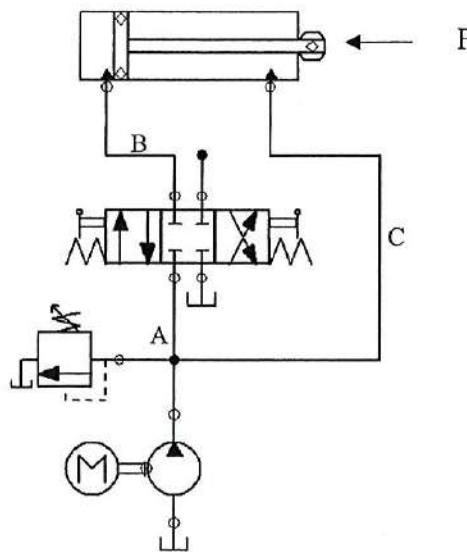

Figure 1 / Rajah 1
- 1 (a) What is the effect of regeneration on cylinder speed and force out-put? Explain why regeneration has this effect as shown in Figure 1.
- (b) The hydraulic system is designed with the Regeneration circuit shown in Figure 1. The pump is powered by the electric motor of 18.65 kW. Pump overall efficiency is 90%. Pump pressure is 6.9 MPa. The given data are as follows: